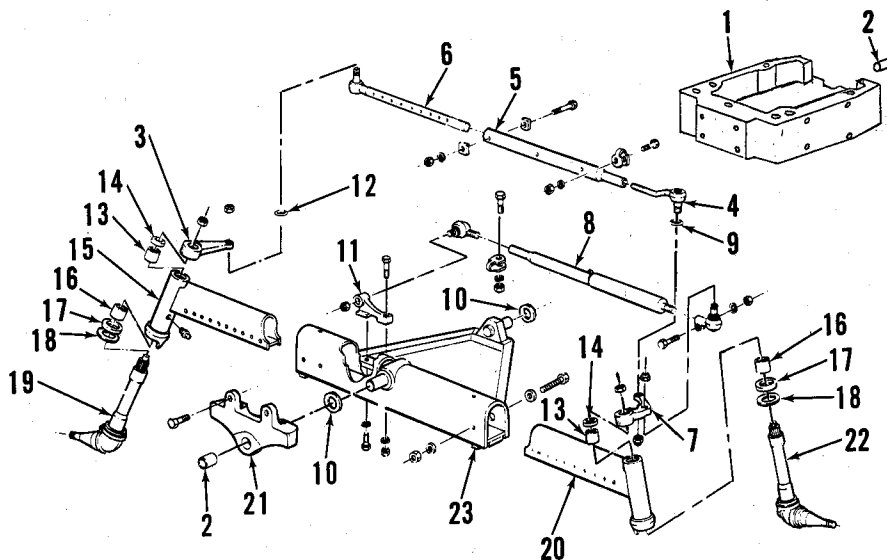

Fig. 40—Exploded view of front axle assembly used on Models 8700, 9700, TW10, TW20 and TW30.
29. REMOVE AND REINSTALL. To remove front axle, remove front weights and support front of tractor. Disconnect and cap steering cylinder hoses. Unbolt and remove front support bracket (21—Fig. 40), then roll front axle assembly away from tractor.
NOTE: Tractor wheelbase may be changed from long to short or vice versa by reversing direction of front axle center member (23—Fig. 40) and replacing steering arms (3 and 7), tie rod sleeve (5) and steering cylinder anchor (11). Steering cylinder hoses must be rerouted and lengthened or shortened.
30. SPINDLE BUSHINGS. Spindle bushings (13 and 16—Fig. 40) are pre-sized and can be renewed without removing axle extension. Pull old bushings and install new ones using a piloted driver to prevent damage to bushing and axle bore. Tighten spindle retaining nuts to a torque of 360-440 ft.-lbs. on all TW-30 models and on TW-10 and TW-20 models equipped with a heavy duty front axle. Tighten spindle nuts on all other models to a torque of 100-125 ft.-lbs.
31. AXLE CENTER MEMBER, PIVOT PINS AND BUSHINGS. To remove axle center member (23—Fig. 40), support front of tractor, remove tie rod ends and cylinder rod as necessary, then unbolt axle extensions from center member. Withdraw axle extensions with spindles and wheels from center member and tie rod sleeves. Support center member and unbolt front pivot pin support. Move center member and front pivot forward until clear of rear pivot pin and lower to floor.
To remove pivot pins and bushings from front support (1—Fig. 40) and bracket (21), remove front axle for access. Renew front axle center member (23) if pivot pins are excessively worn or damaged. Use suitable driving tool to remove bushings. New bushings are pre-sized.
32. TIE ROD AND TOE-IN. Recommended toe-in is $\frac{1}{4}$ to $\frac{1}{2}$ -inch. To adjust toe-in, remove bolt securing sleeve (5—Fig. 40) to tie rod (6) and loosen clamp on sleeve. Turn sleeve (5) until desired toe-in is obtained. Tighten clamp, install bolt securing sleeve to tie rod and recheck toe-in measurement.
33. REMOVE AND REINSTALL. To remove front support casting (1—Fig. 40), remove radiator as outlined in paragraph 152. Remove front axle assembly as outlined in paragraph 29. Attach a hoist or other device to front support casting and unscrew retaining bolts and nuts.